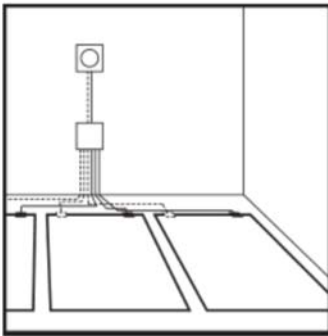

Fig. 1
- Connect conductors to a connection box (see fig. 1 and 2) or directly to a thermostat.